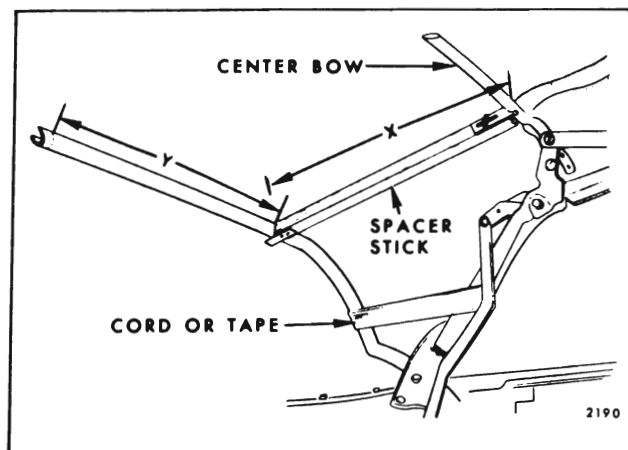

Fig. 13-52 — Spacer Stick Installation
1. Preset spacer sticks to shortest length and install between center and rear roof bow (Fig. 13-52). Adjust sticks so that dimension "X" in Figure 13-52 (measured along spacer stick from front upper rolled edge of rear roof bow to center of center bow) is 16-1/16" on "B & C" Styles, 15-3/4" on "A" Styles and 13-3/16" on "F" Styles.